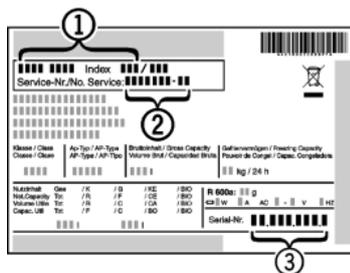

Fig. 20
- ▶ Read the appliance designation Fig. 20 (1), service No. Fig. 20 (2) and serial No. Fig. 20 (3) off the type plate located inside the appliance on the left-hand side.
- ▶ Notify the customer service, specifying the fault, appliance designation Fig. 20 (1), service No. Fig. 20 (2) and serial No. Fig. 20 (3).